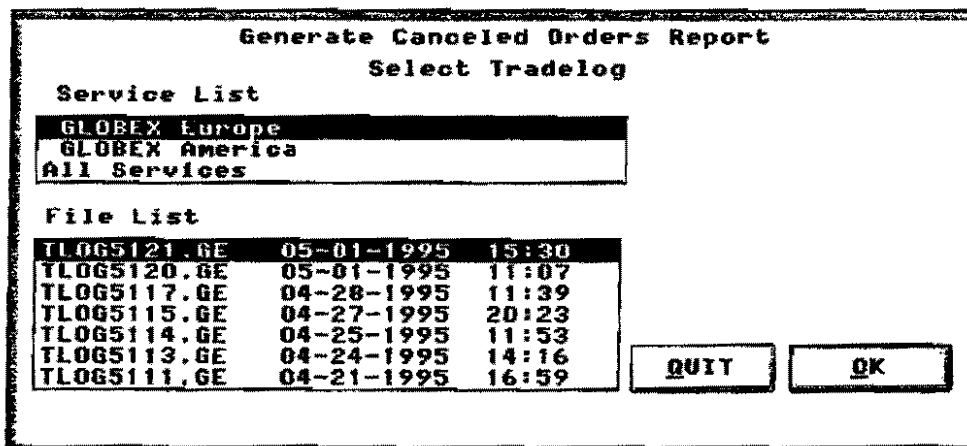

Figure 12.16 Generate Cancelled Orders Report Dialog Box
1. Select **Cancelled Orders** in the Reports menu to display the dialog box shown in Figure 12.16. The highest priority Service is selected, as is the most recent of up to seven tradelog files displayed in the list. (Tradelog filenames are explained in Section 12.4.2.)